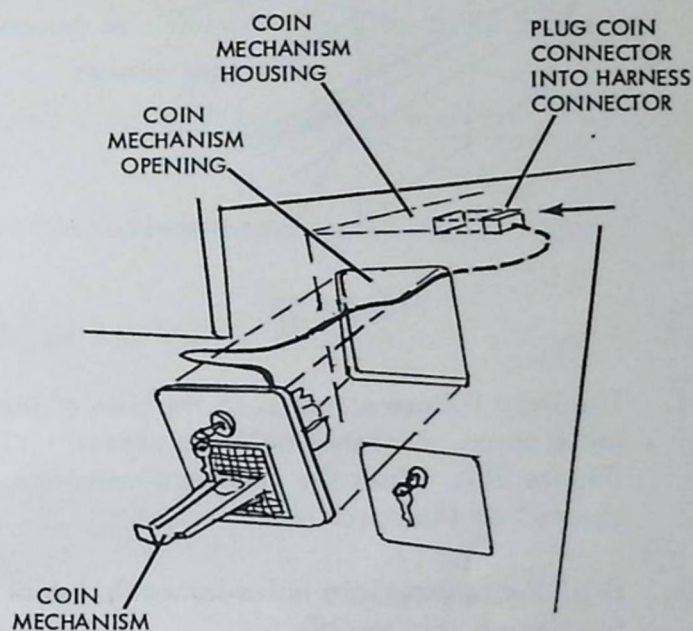

FIGURE 26
37. Plug the coin mechanism wiring connector into the connector located inside the coin mechanism housing (Figure 26). Place coin mechanism into opening and lock in place.